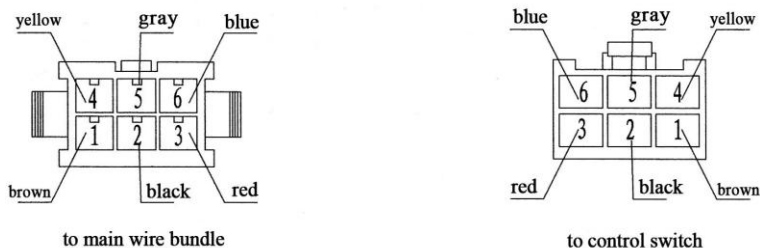

Fig. 21
4.5.6 Use four self-tapping screws to fix the control switch in a position for convenient operation and the arrangement shall make easy observation on the indicator on the case, so as to identify the working conditions (operation/stop) of the heater easily. The terminals on the leads from the control switch according to the sequence shown in Fig.21, shall be inserted into the pin seat and connect with self-locking mechanism to connector X9 on the main wire bundle.